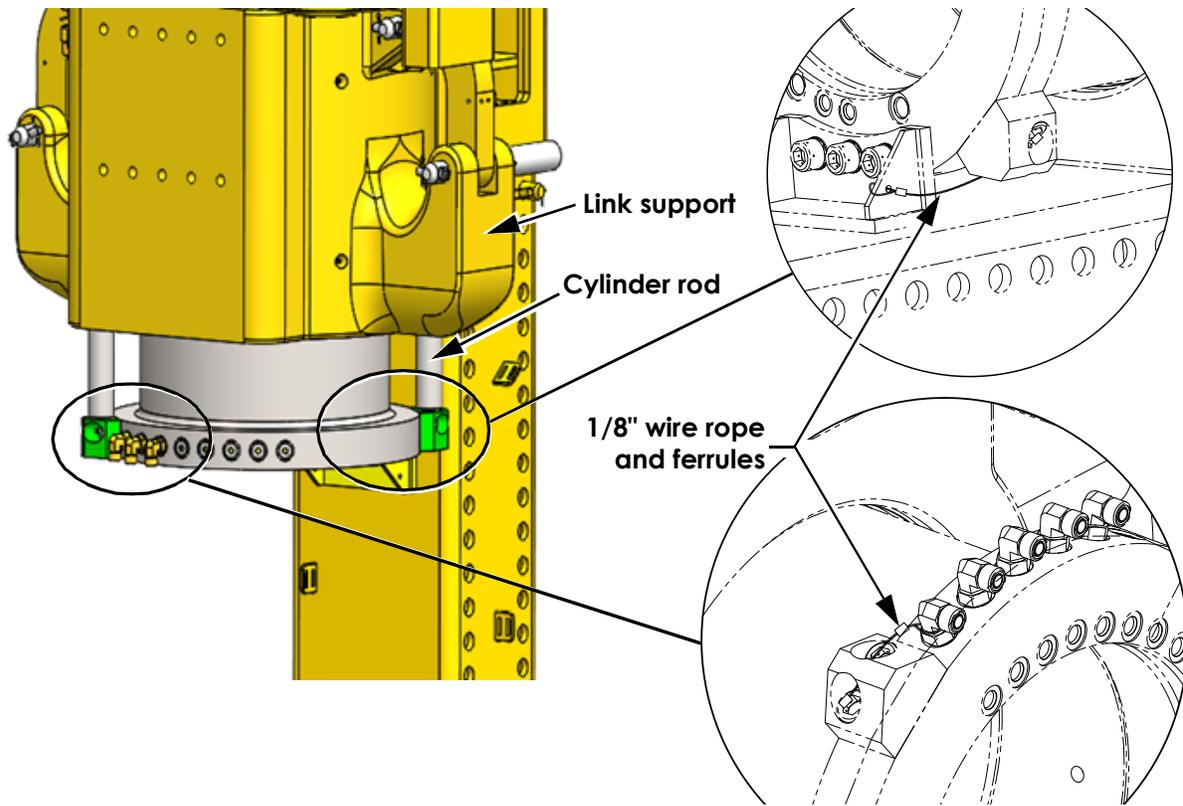

Figure 1: Secured Pressure Pads on Rotary Manifold Assembly
- For current Canrig production units, the pressure pads are secured using a 1/8" wire rope and ferrules to minimize the potential for dropped object. Refer to Figure 1.